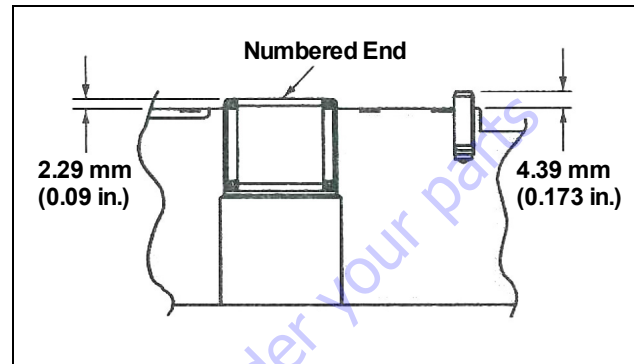

Figure 5-131. Endcover Inspection
- Check the bearing (press fit) in endcover. If needles remain in cage, move freely, and setting is at the dimension shown in Figure 5-131., removal not required.
- Check roll pin in endcover. If tight and set to the dimension shown in Figure 5-131., removal not required.